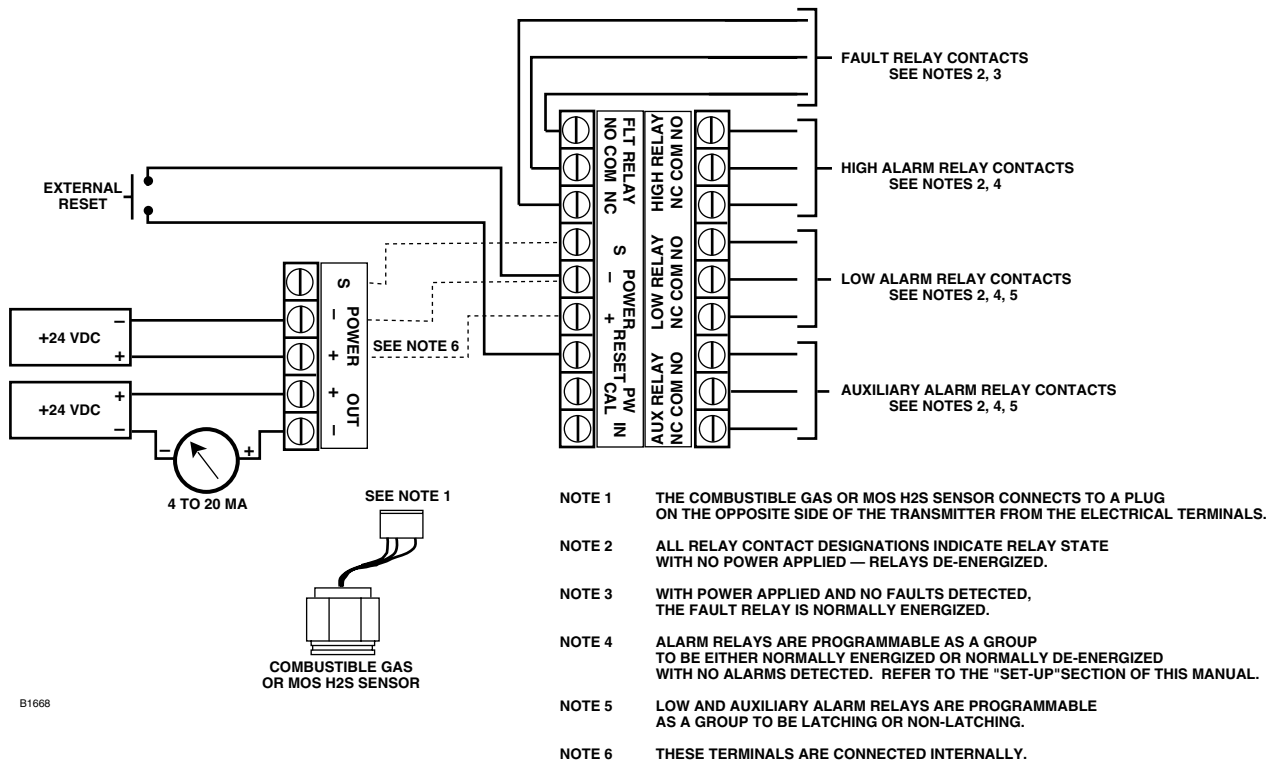

Figure 7—A Typical System - Infiniti Transmitter with Combustible Gas or MOS H₂S Sensor, Isolated Current Output and Relay Outputs
9. Connect the power and current output leadwires to the screw terminals on the plug that is provided. See Figures 7, 8, 9 and 10 for examples of transmitter wiring. Connect the shield to earth ground at the power supply. Under normal conditions, the panel or field end of the shield should **not** be grounded at the transmitter.
10. For Relay models, refer to Figures 7 and 8 when connecting external loads to the relay outputs. For models without relays, proceed to step 11.
11. An external reset switch can be wired as shown in Figures 7, 8, 9 and 10. The use of shielded wire is recommended for wiring the switch.
- Figure 7 — A Typical System, Infiniti Transmitter with a Combustible Gas or MOS H₂S Sensor, Isolated Current Output and Relay Outputs